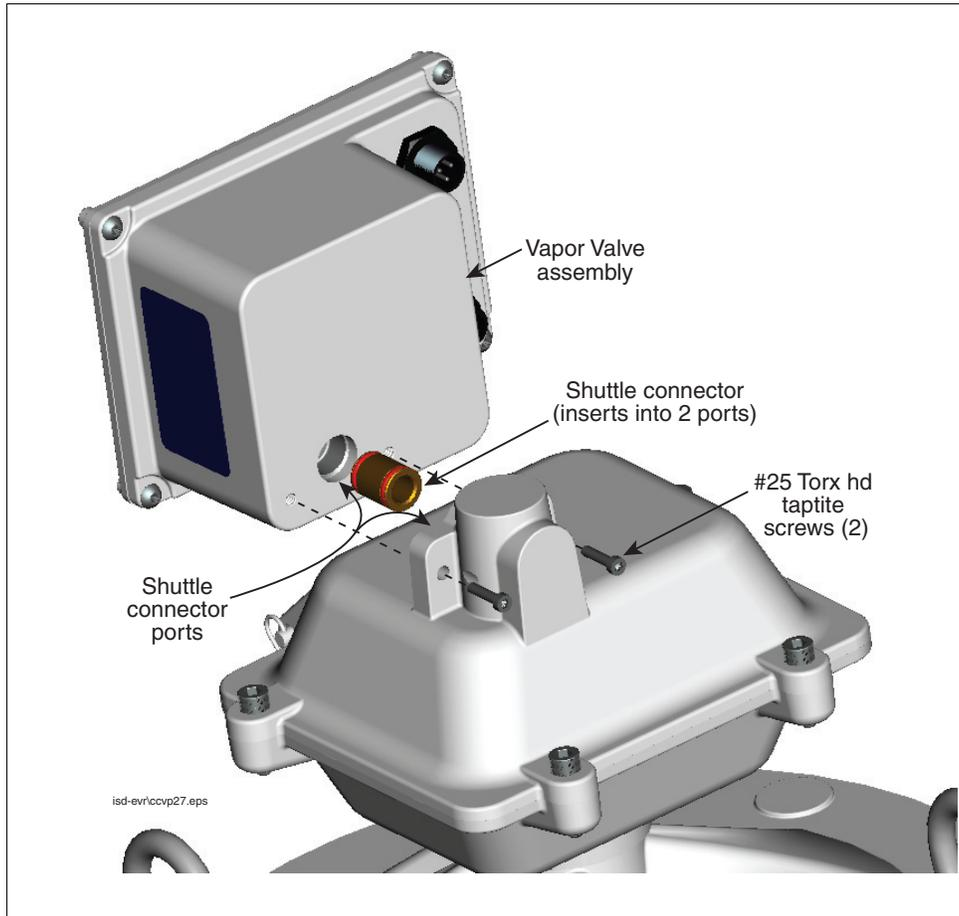

Figure 13. Replacing Vapor Valve assembly and Shuttle Connector
3. Remove the Vapor Valve assembly (and remove the Shuttle Connector if necessary, see Figure 13).
6. Insert the two #25 Torx head taptite screws through the holes in each side of the Vapor Valve Filter housing and screw them into the Vapor Valve assembly until tight (see Figure 13).